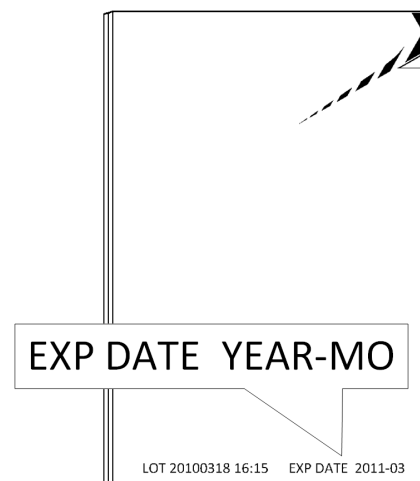

Figure 1
2. Verify that the Speed-Sheet has not reached its expiration date (Figure 1).